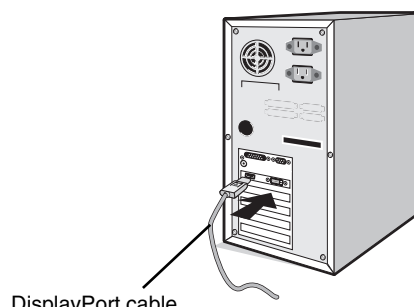

Figure A.2
- For a PC with DisplayPort output:** Connect the DisplayPort cable to the connector of the display controller in your system (**Figure A.2**).